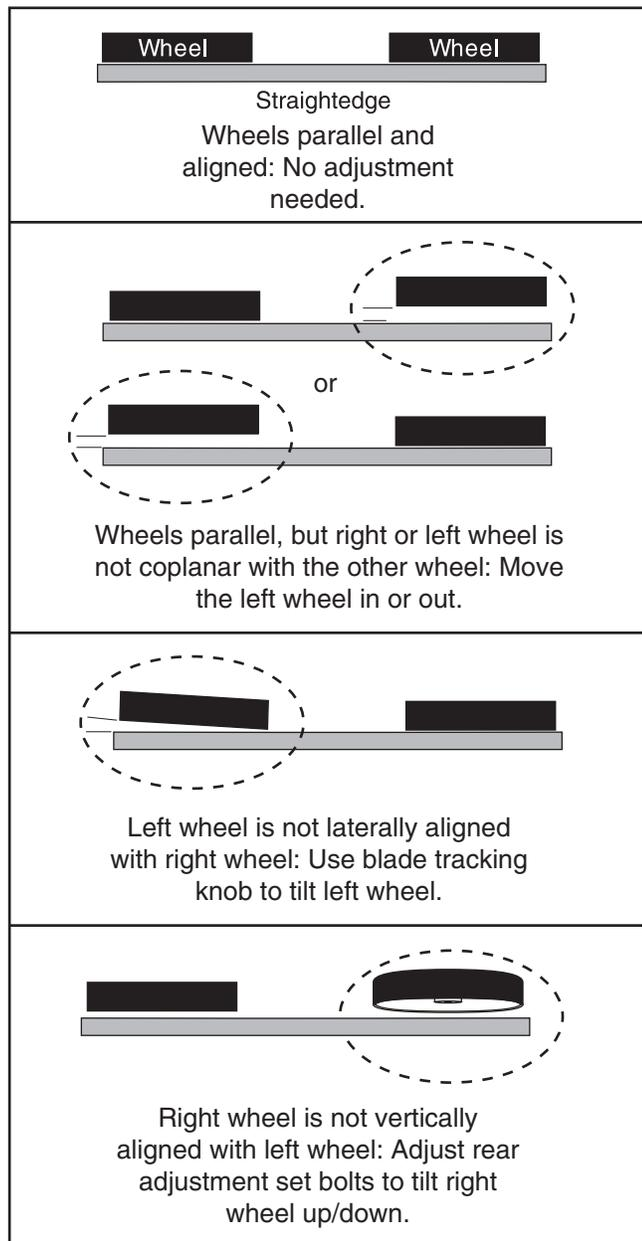

Figure 111. Wheel alignment illustration with solutions to misalignment problems.
4. Check wheel alignment and adjust tracking knob to bring both wheels into alignment as much as possible. If wheels cannot be adjusted coplanar, use **Figure 111** to determine how to proceed with alignment adjustments.